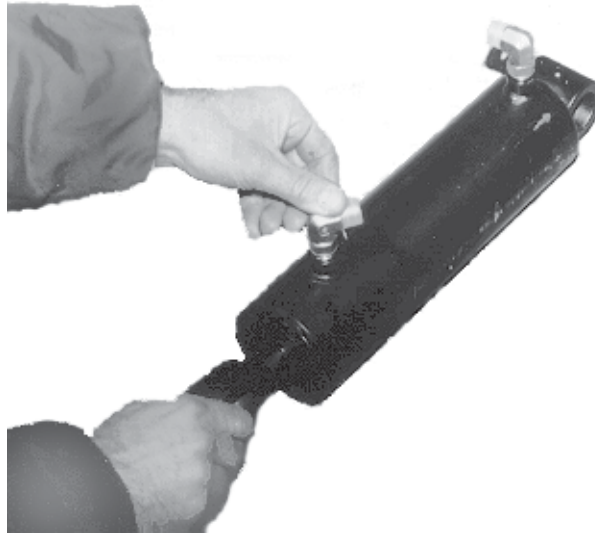

Figure 13
1. Attach fittings to the cylinder with the elbow fitting on the rod end and the orifice fitting on the barrel end (figure 13).